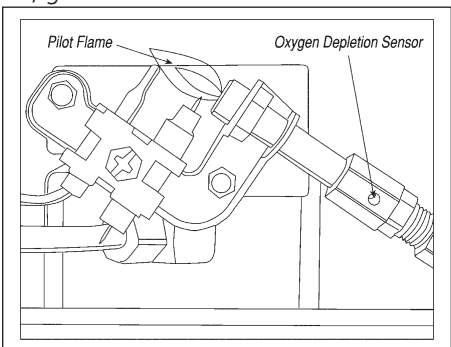

Figure 5
during use. The pilot flame should be blue in color (not yellow) and will extend beyond the thermocouple. The flame will surround the thermocouple just below the tip, see Figure 5.
- 3 Remove (4) four screws that secure the rear cover to the Heater.
- 5 Remove (4) four burner retaining screws and fuel line from burner assembly. Remove burner assembly from back of housing.
- 7 Inspect and clean main burner orifice (threaded into orifice holder). Orifice holder is attached to the burner assembly venturi with (2) two screws.
- 8 Inspect and clean pilot (mounted to bracket) by using a vacuum or apply air pressure through the holes in the pilot indicated by the arrows in Figure 5.